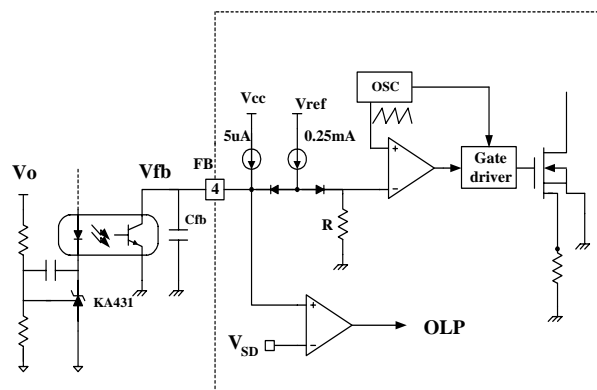
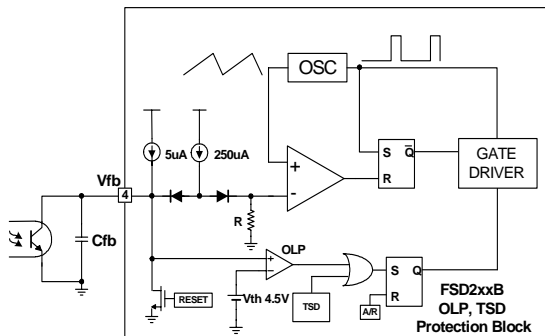

Figure 8. PWM and feedback circuit
Figure 9. Protection block
2. Feedback Control : The FSD200B/210B are both voltage mode devices as shown in Figure 8. Usually, a H11A817 optocoupler and KA431 voltage reference (or a FOD2741 integrated optocoupler and voltage reference) are used to implement the isolated secondary feedback network. The feedback voltage is compared with an internally generated sawtooth waveform, directly controlling the duty cycle. When the KA431 reference pin voltage exceeds the internal reference voltage of 2.5V, the optocoupler LED current increases pulling down the feedback voltage and reducing the duty cycle. This event will occur when either the input voltage increases or the output load decreases.
4.1 Over Load Protection (OLP) : Over load protection occurs when the load current exceeds a pre-set level due to an abnormal situation. If this occurs, the protection circuit should be triggered to protect the SMPS. It is possible that a short term load transient can occur under normal operation. In order to avoid false shutdowns, the over load protection circuit is designed to trigger after a delay. Therefore the device can differentiate between transient over loads and true fault conditions. The maximum input power is limited using the pulse-by-pulse current limit feature. If the load tries to draw more than this, the output voltage will drop below its set value. This reduces the optocoupler LED current which in turn reduces the photo-transistor current (see figure 9). Therefore, the 250uA current source will charge the feedback pin capacitor, Cfb, and the feedback voltage, Vfb, will increase. The input voltage of the feedback comparator (Vfb) is only charged from delay current source after the feedback current can not charge the feedback capacitor any more. Once the feedback is not charged from feedback current any more, the device switches at maximum drain current, the 250uA current source is blocked and the 5uA source continues to charge Cfb. And once Vfb reaches OLP(4.5V), switching stops and overload protection is triggered. The resultant shutdown delay time, t2, is dependent on feedback capacitor and feedback delay current, in Fig. 8